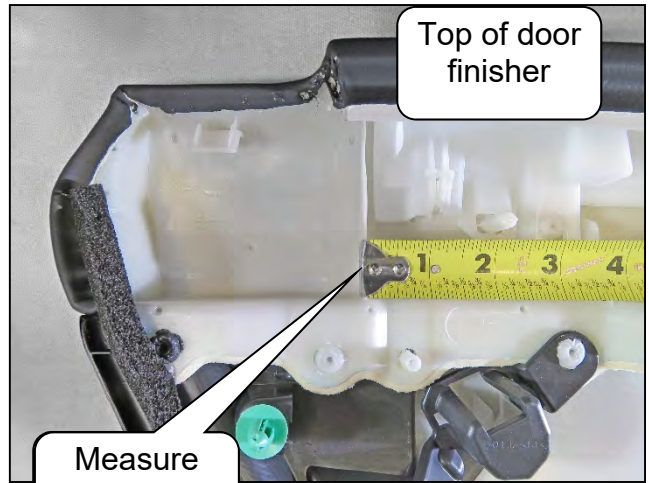

Figure 22
13. Place a tape measure on the tab at the upper corner of the door finisher as shown in Figure 22.